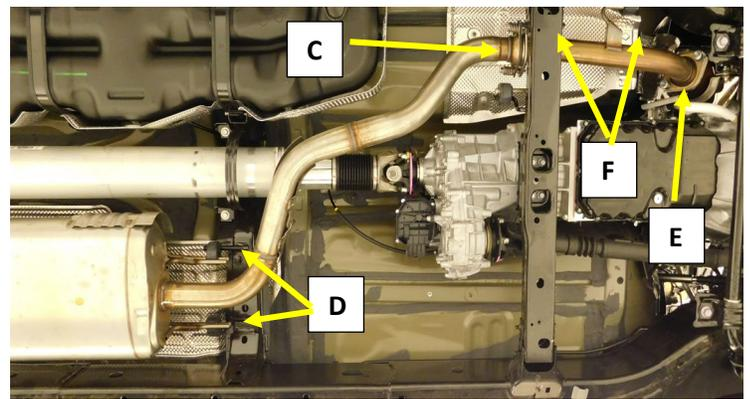

Figure.2
5. Remove the spring bolts at the flanged connection between the down pipe and the muffler inlet pipe(C). **Fig.2**
7. Remove the spring bolts from the flanged connection between the catalytic converter and the down pipe (E), remove the rubber isolators (F) and remove the down pipe. **Fig.2**